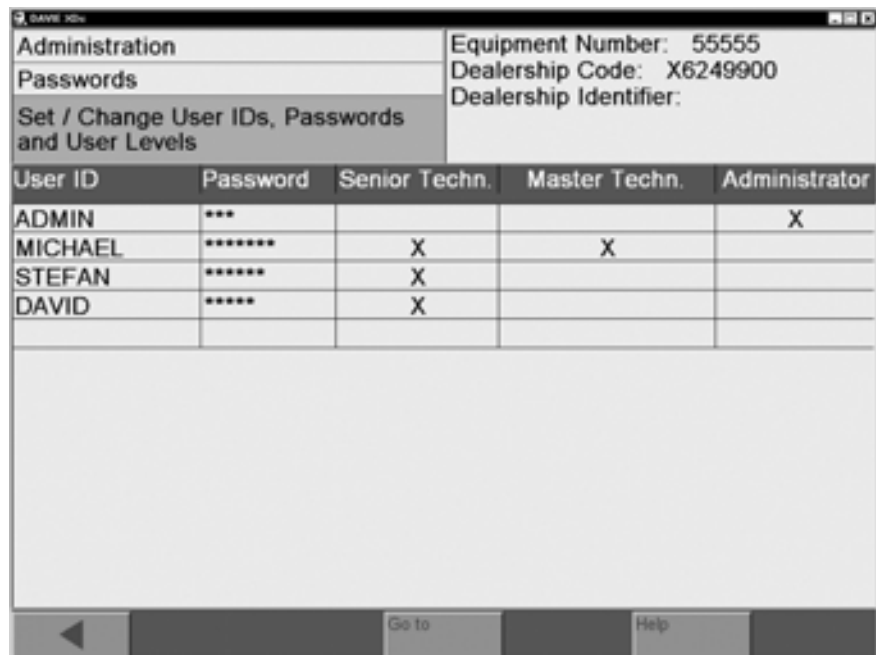

Figure 4-7 Administration screen: user set-up
9. In the "Passwords" screen, users of the DAVIE XDc II system and passwords can be add and changed (see Figure 4-7). All entered users are displayed with their user levels and hidden passwords.